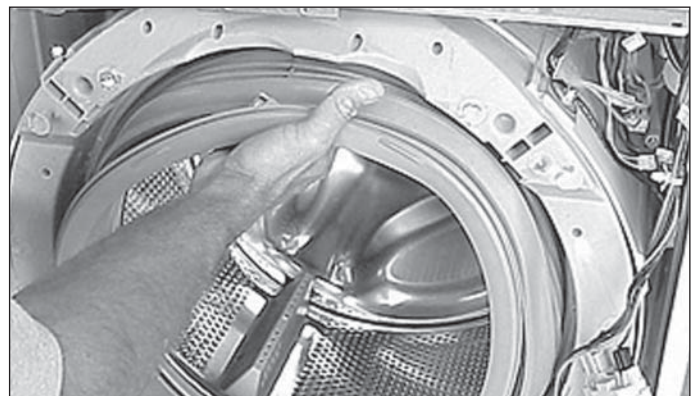

Figure 4-40.
5. Remove the bellows by placing your hand under the bellows at the top of the opening and lift up while pulling out. (See Figure 4-40)